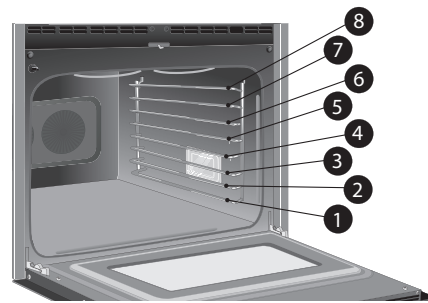
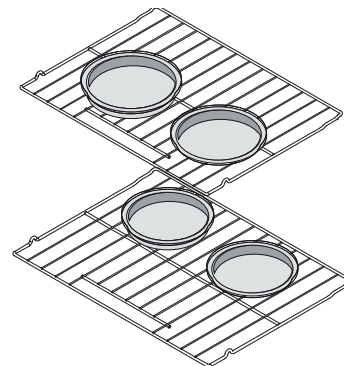

Figure 16: Oven rack positions
Figure 17: Baking on multiple levels
- For best results when baking cakes using two oven racks, use the regular bake function and place racks in positions 3 and 7 (Figure 16) and place pans as shown in Figure 17.